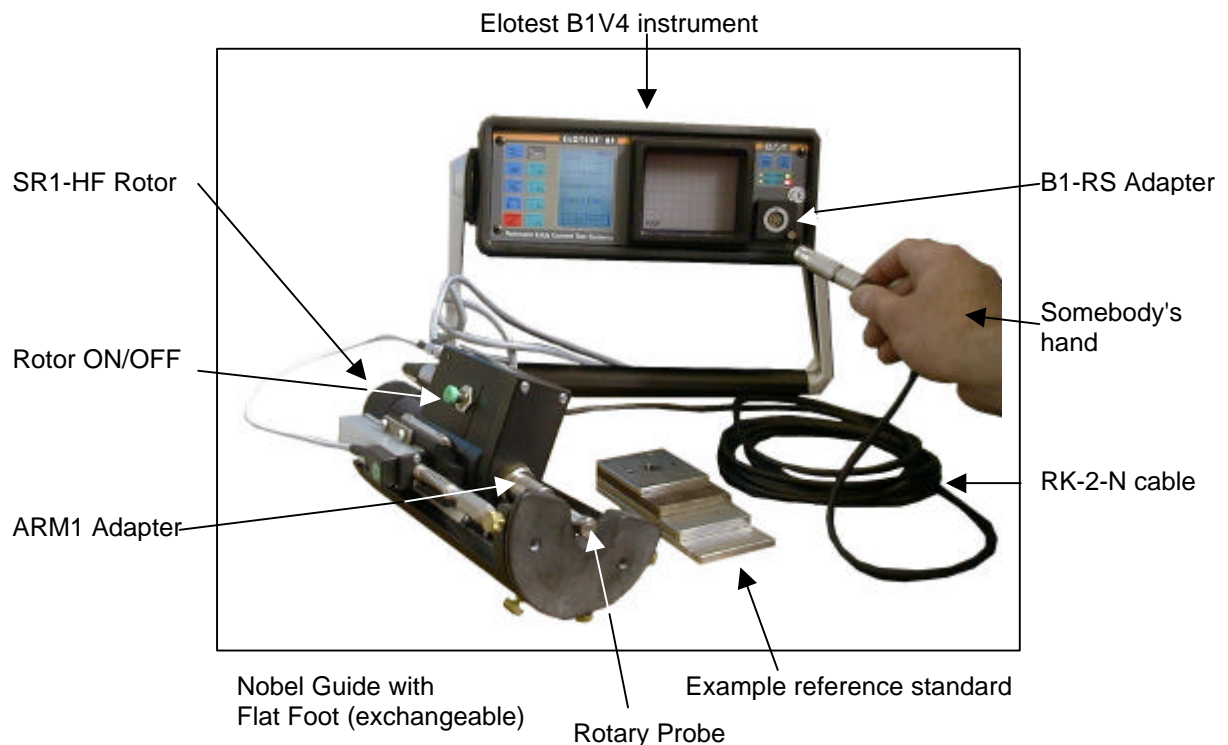

Fig. 1 Setup of ET equipment for bolt hole inspection
- 1) Make sure the B1-RS probe adapter (black square plug with 8 small sockets, Fig. 1) is in the Elotest B1, at the bottom right corner of the front panel. Connect the RK-2-N cable from the rotor to the B1-RS adapter.